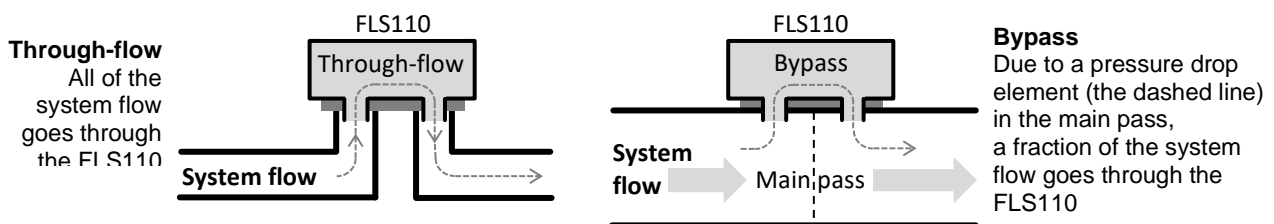

Figure 2: Through-flow and bypass system configurations
The FLS110 can be connected into your system flow path in either a through-flow or bypass arrangement. Both are illustrated in Figure 2. There are a number of ways to implement bypass or non-through-flow configurations. We cover that topic more in section 3.
1. **Through-flow (direct flow measurement).** All of the system flow goes through the FLS110 (see Figure 2)0. This configuration is appropriate if the dynamic range of your system flow is within (or nearly within) the FLS110's nominal operating range of up to 200 sccm or 500 Pa.